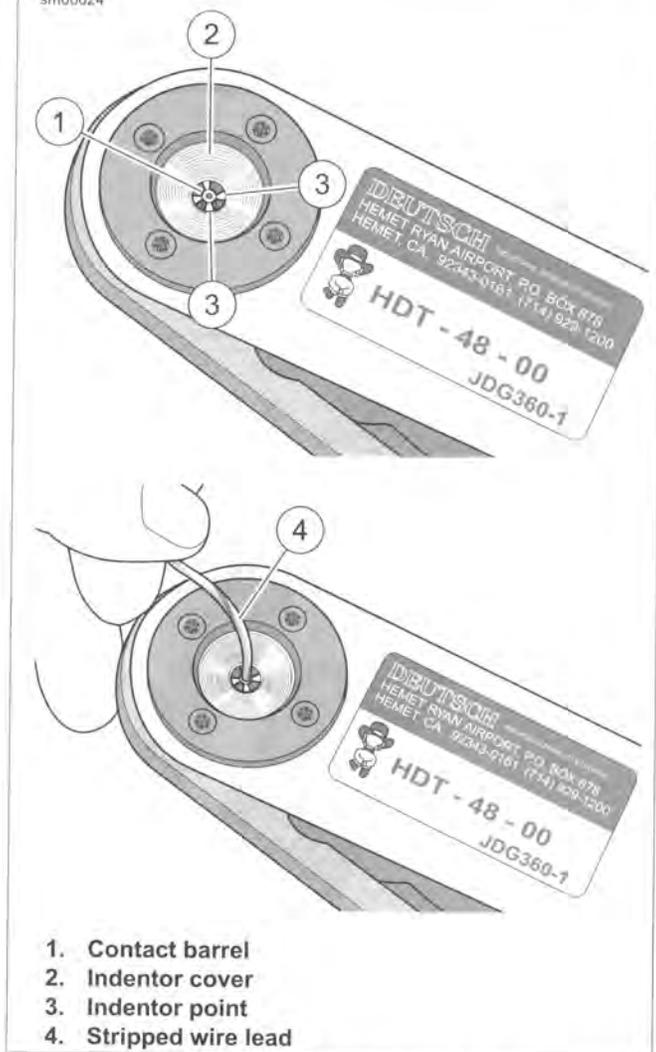

Figure A-39. Deutsch Solid Barrel
1. See Figure A-39. Turn tool over and drop contact barrel (1) into indenter cover (2) hole with the wire end out.
3. Slowly squeeze handles of crimp tool until contact centers between the four indenter points (3).
4. Insert bare wire core strands of stripped wire lead (4) into contact barrel. Squeeze handle of crimp tool until tightly closed. Tool automatically opens when the crimping sequence is complete.